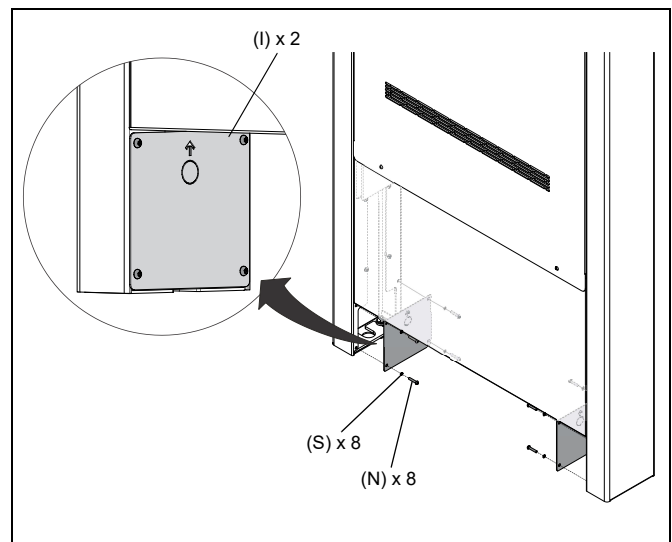

Figure 20
- Install two lower covers (I) over the openings at the base of the kiosk frame using eight 10-24 x 1" screws (N) and O-rings (S). The arrows on the panels point up. (See Figure 20)